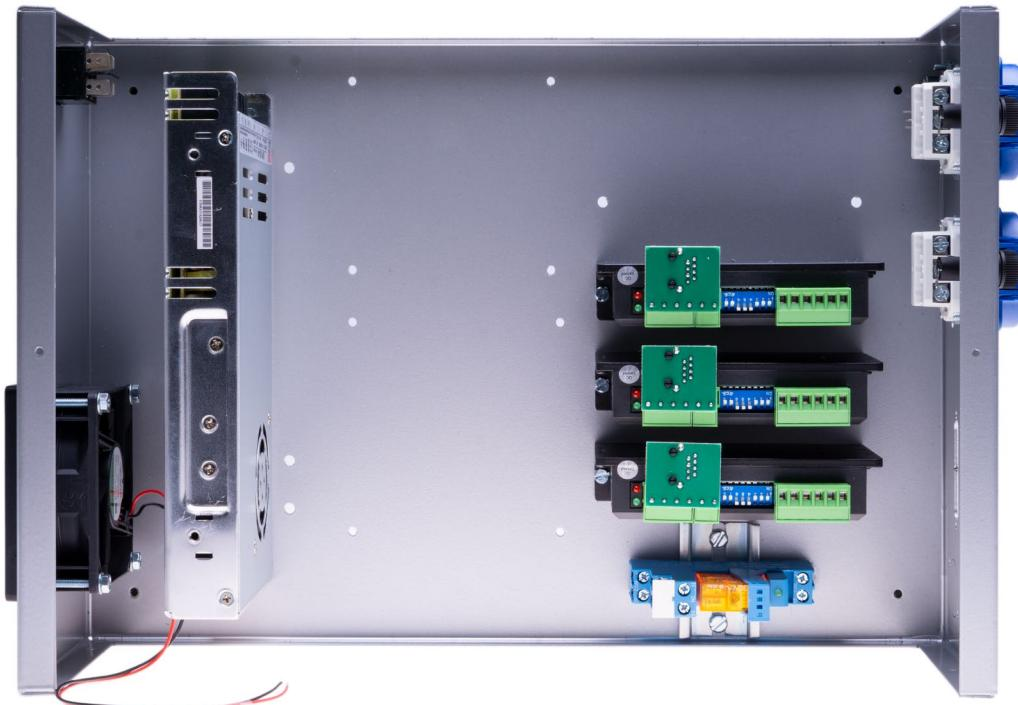

Fig. 11: Housing with internals before the start of the wiring
- Mount the mounting rail with the screws S6, washers U5 and nuts M5 in its place in the rear part of the housing (see Fig. 11).
- Place the coupling relay on the already installed mounting rail, as shown in Fig. 11.